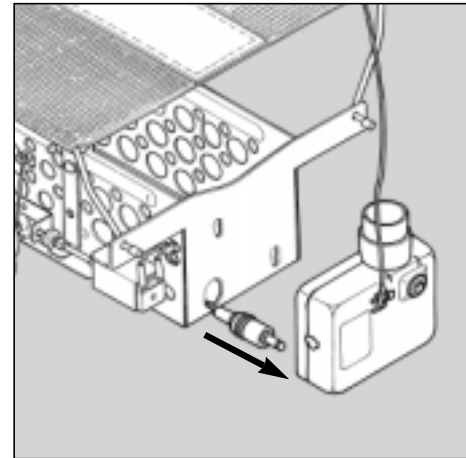

Figure 4. Plugging Solenoid cord into receiver.
- 2) Pull the solenoid cord through the hole in the launcher box and plug it into the receiver's outlet (Figure 4).